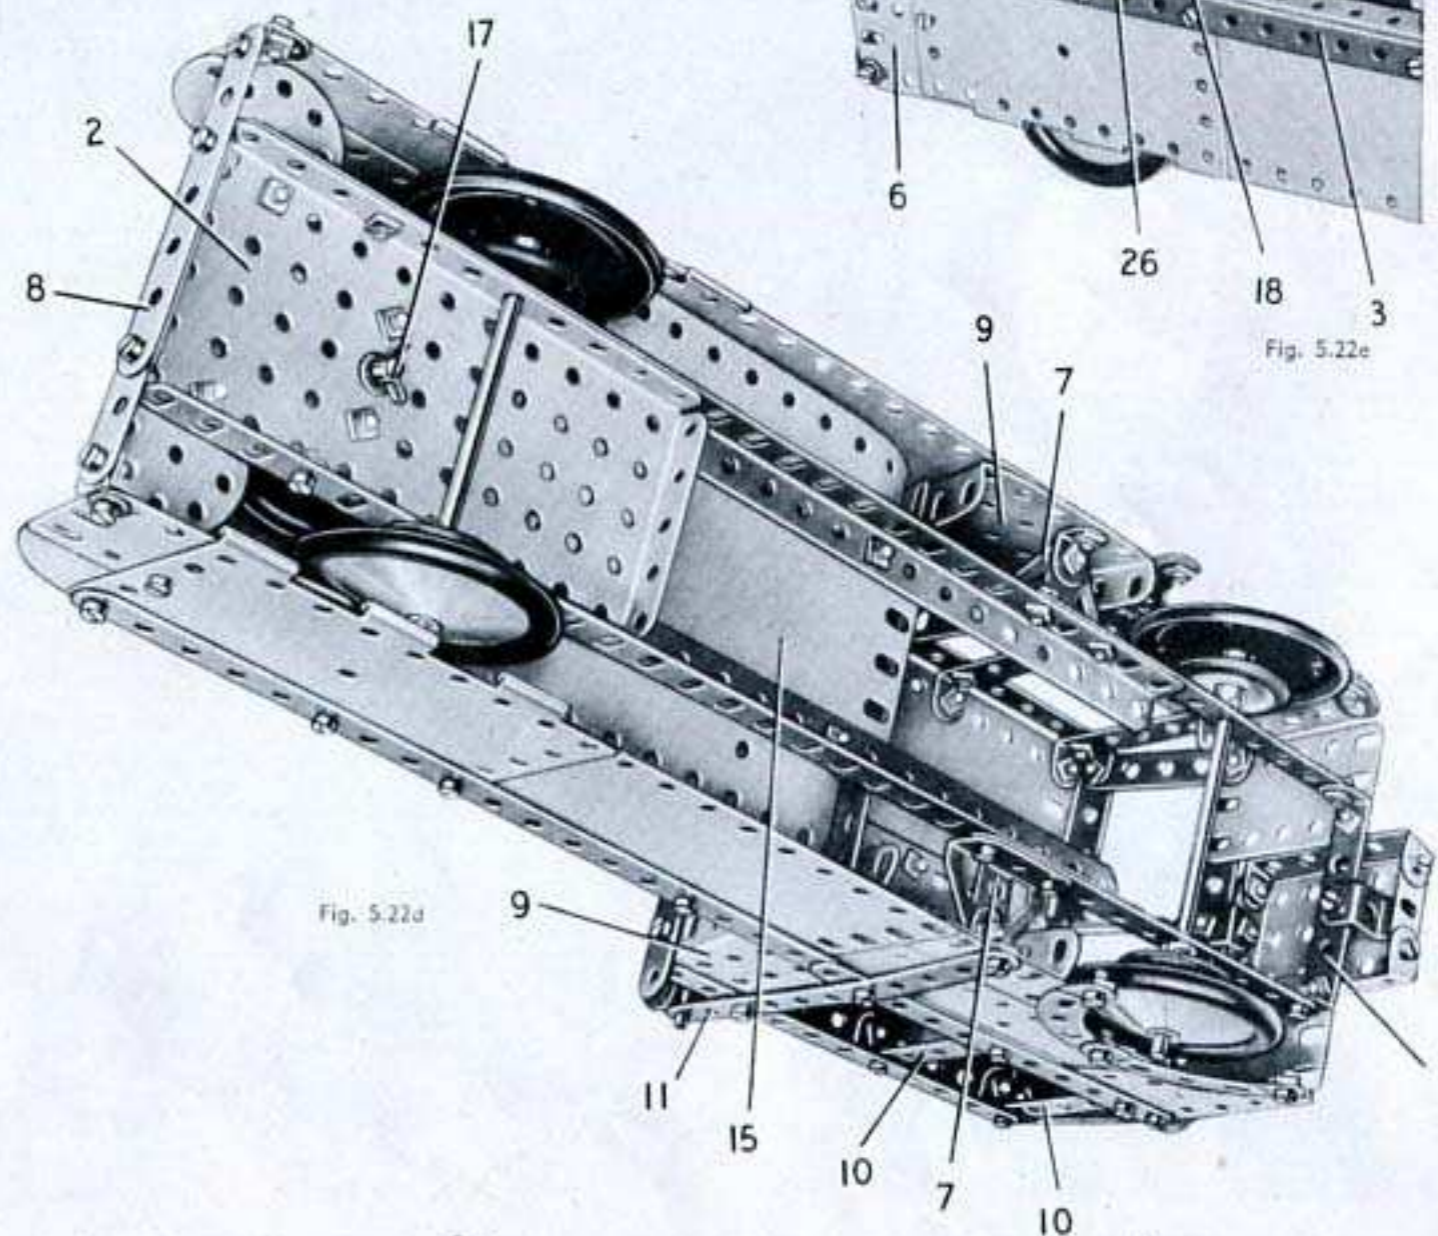

Fig. 5.22d
**CONSTRUCTION DU CHASSIS (Fig. 5.22d)**